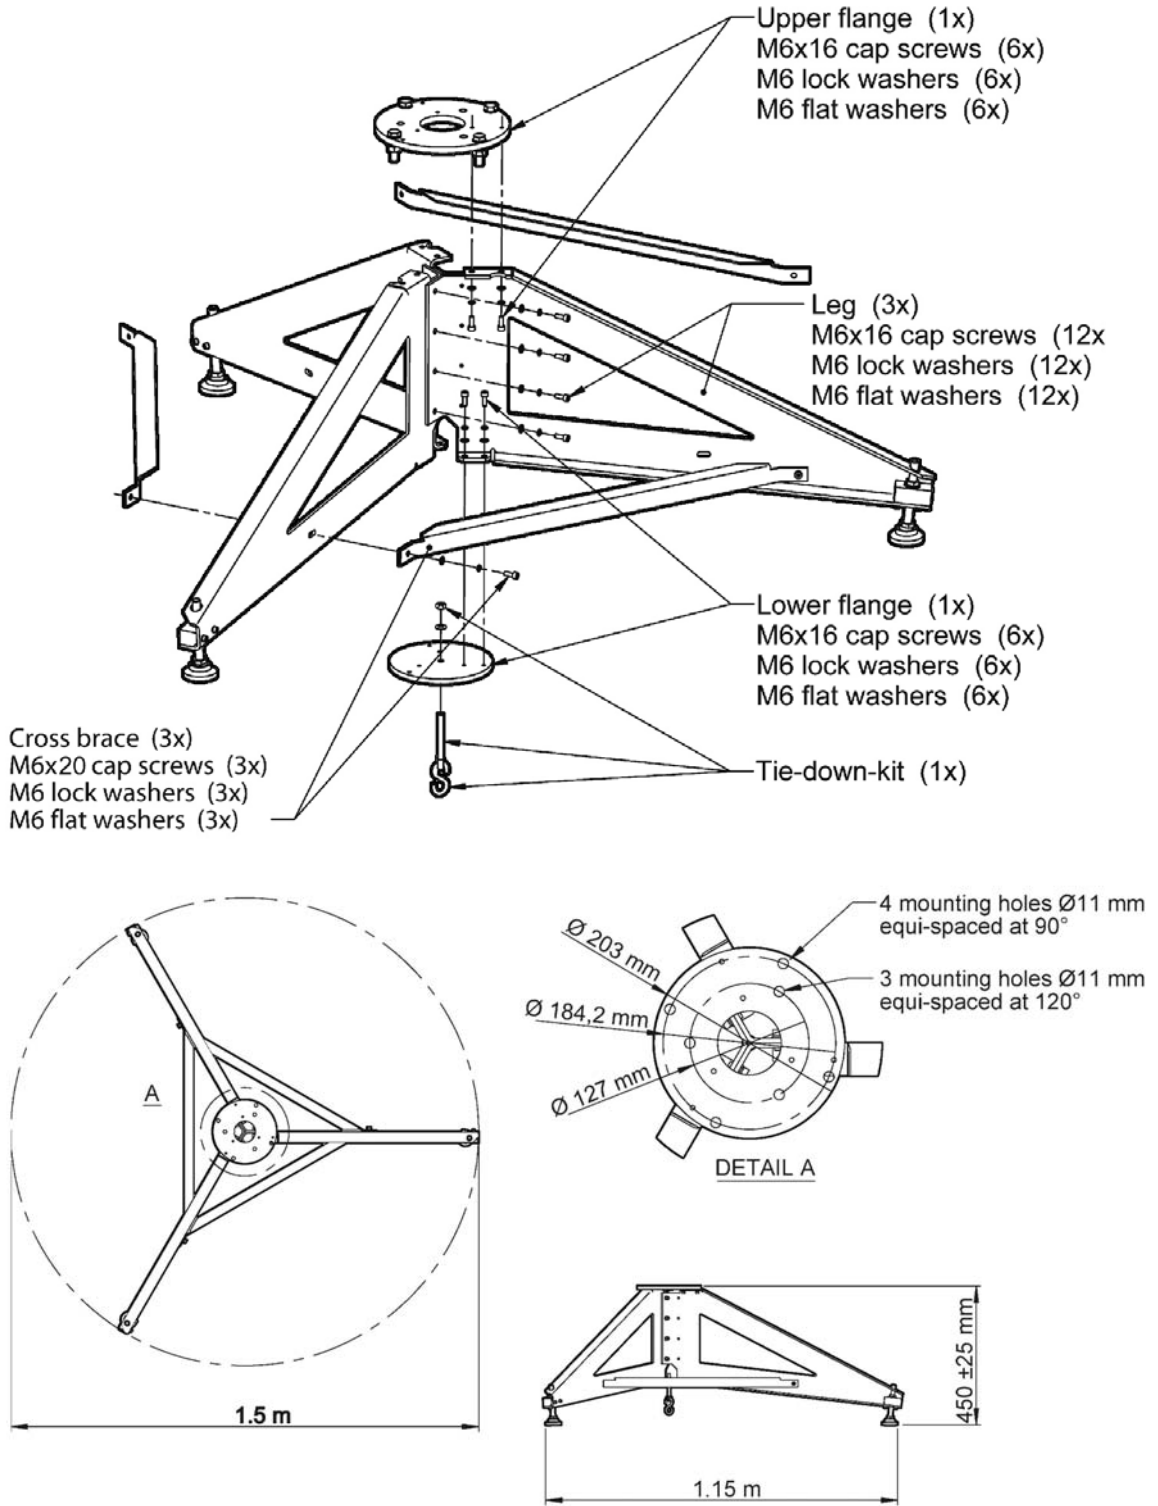

Figure 3.4: Brewer Spectrophotometer Tripod.
**3.2 TRIPOD UNPACKING AND SETUP****Refer to Figure 3.4.**